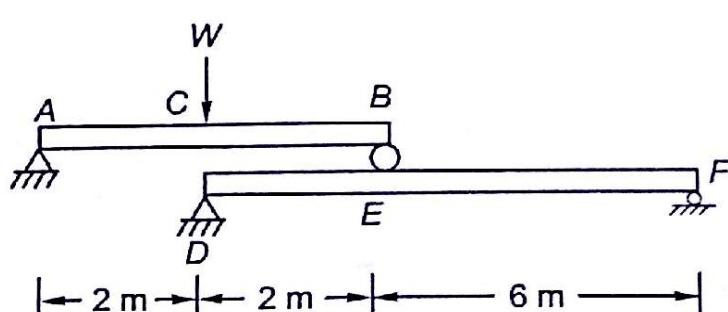

Fig. 9.35
- 9.4 Beams AB and DF carry load W as shown in Fig. 9.35.**